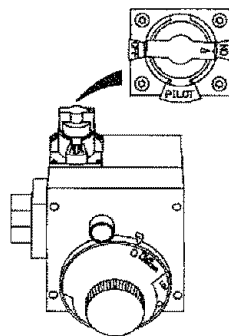

Figure 8
11. At arms length away, turn gas control knob counter-clockwise () to the full "ON" position. **Warning do not use gas control knob to regulate gas flow.** (Figure 8, page 17)